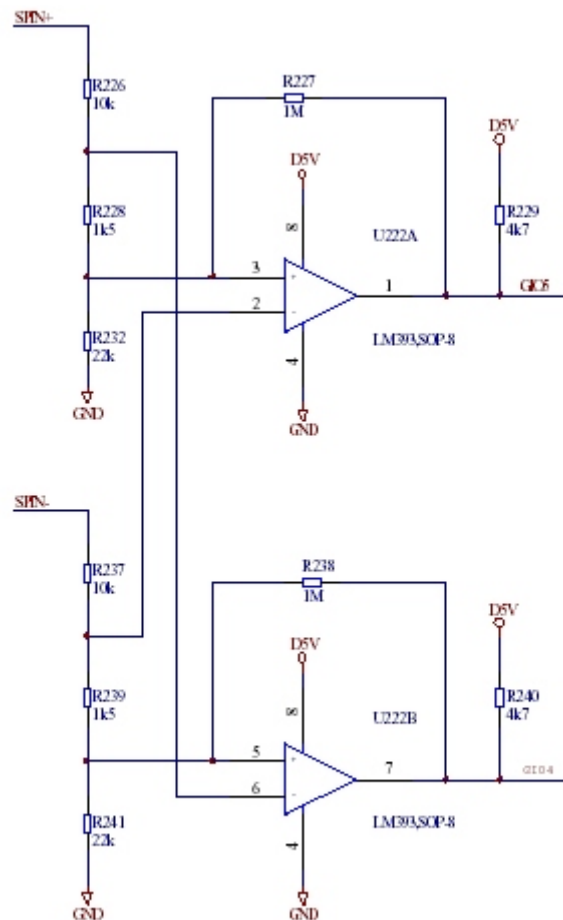

Figure 3.2.6.1 Main axis diversion judgement circuit diagram
1. Main axis diversion judgement circuit is shown as the following figure 3.2.6.1: